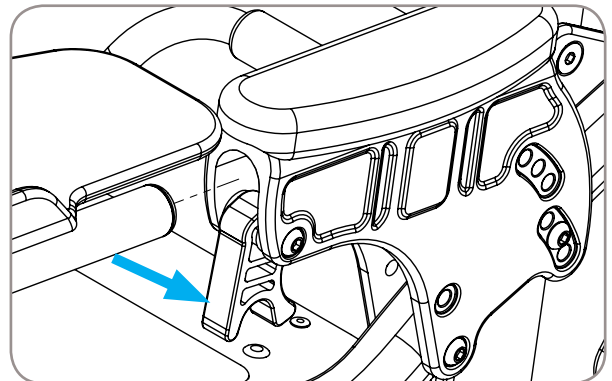

Figure 28
1. To insert tray, swing left and right tray cam locks downward. Reference Figure 28.